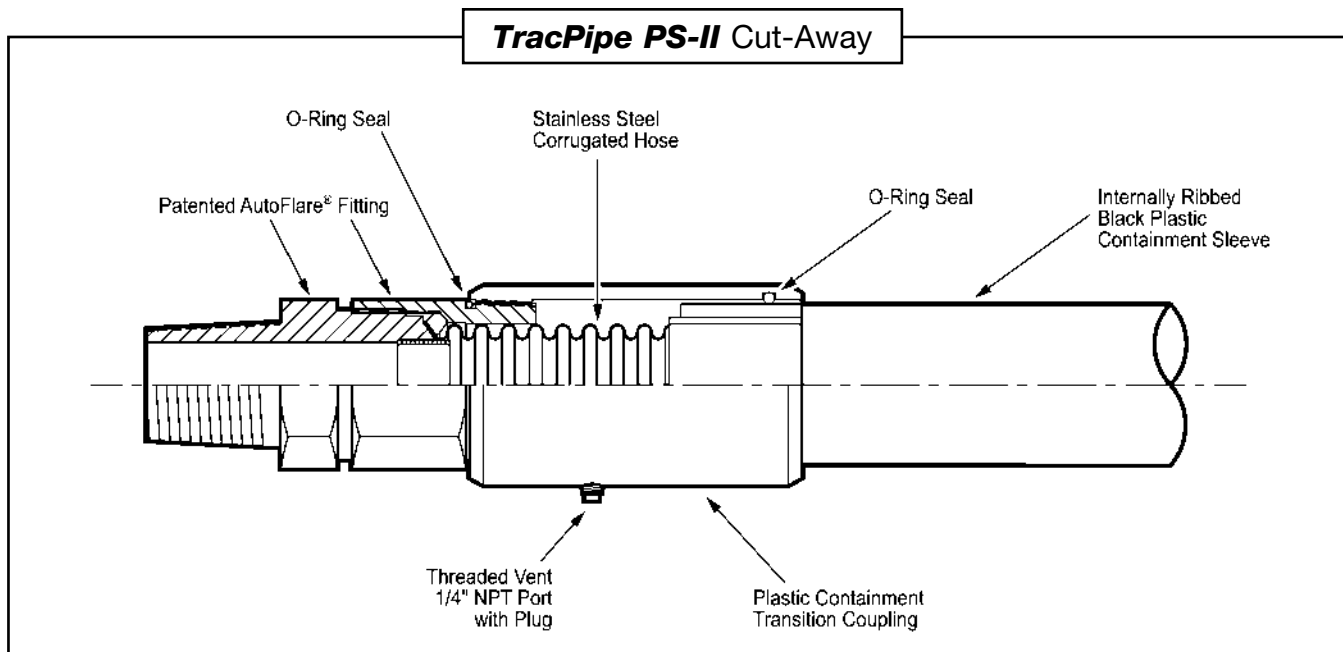

Figure: 4-45
1. **TracPipe® PS-II** is a patented system suitable for above ground and underground use. It is designed with our standard CSST tubing and incorporates an internally ribbed sleeve (conduit), and specially designed end fittings that provide vent capability at either end of a piping run in the event of a leak in the CSST. Figure: 4-45